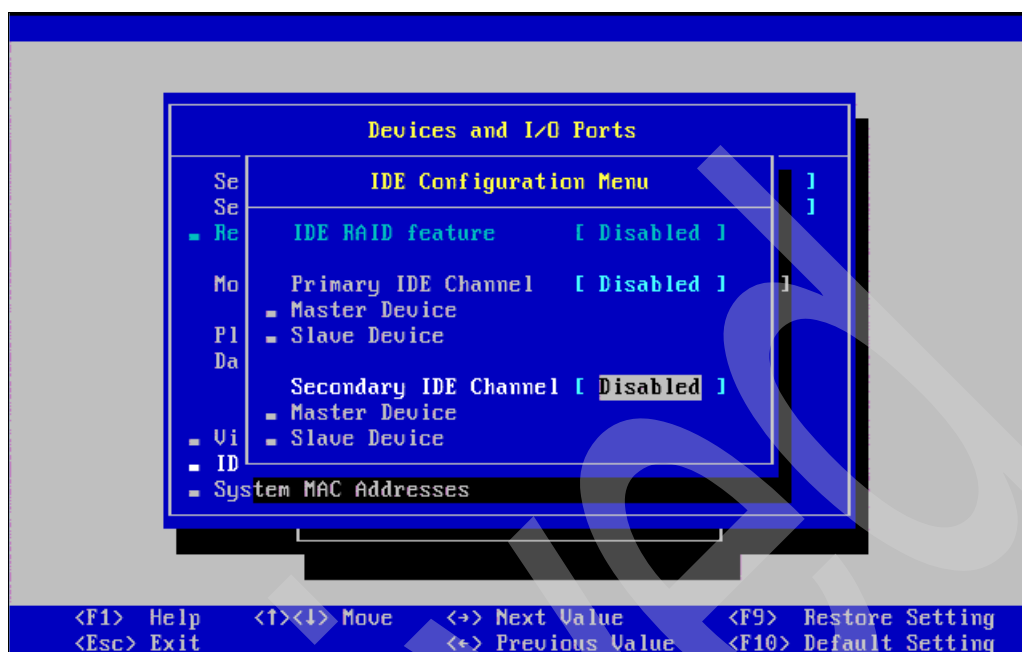

Figure 5-46 Disabling IDE Devices
3. Select the IDE configuration from the next menu and disable the primary IDE and secondary IDE connections, as shown in Figure 5-46. If necessary, also disable SAS or SATA controllers. Make sure that the CD drive will still operate. Do not disable the interface to the CD drive.